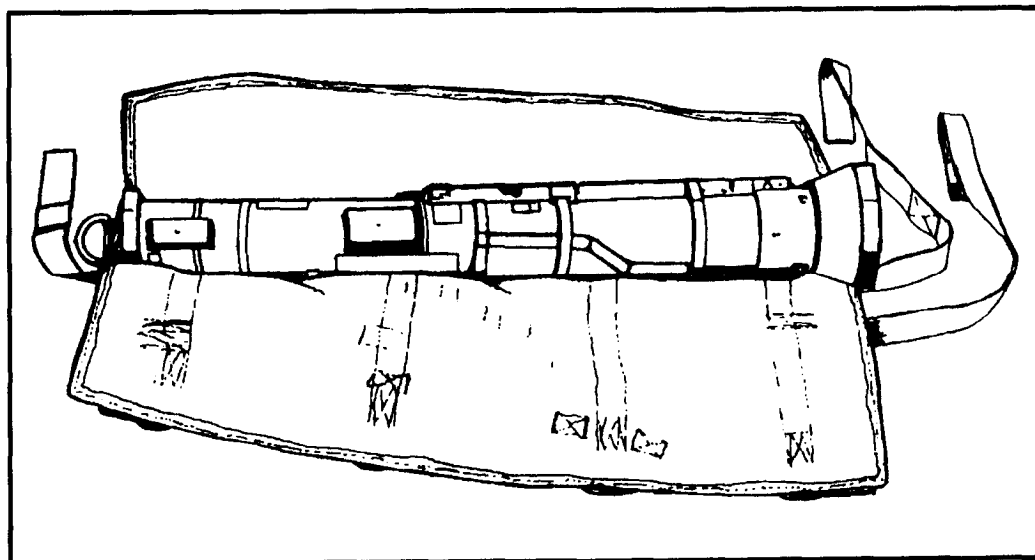

Figure 12-49. AT4 weapon round positioned.
(1) Position the weapon round on the pack with the carrying sling facing down, and the launcher forward end (small) fitted into the nonadjustable cross D-ring strap with the launcher aft (large) end centered on the middle launcher aft end securing strap (Figure 12-49).